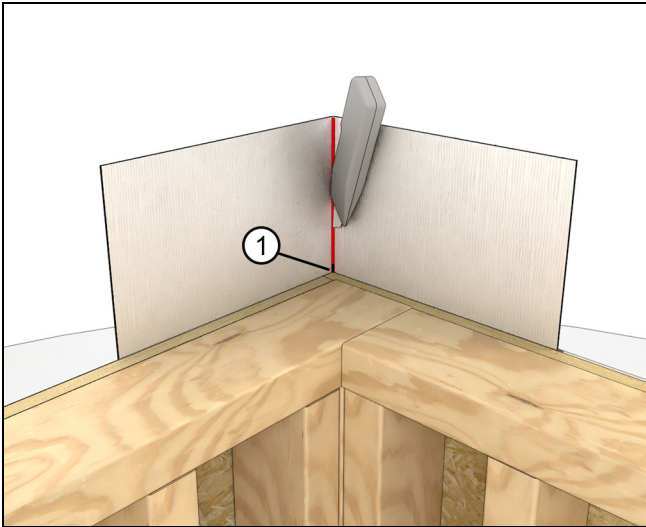

Figure 17
6. Cut the flashing at the crease in the corner. Stop about 1/4" from the sill. See Figure 17.